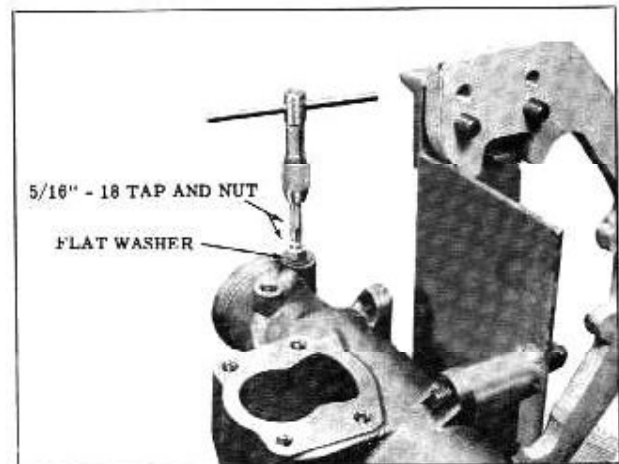

Fig. 4-26 Removing Connector Seat
3. With the steering gear in a vertical position, thread the tap into the connector seat, not more than 3 turns. (Fig. 4-26)